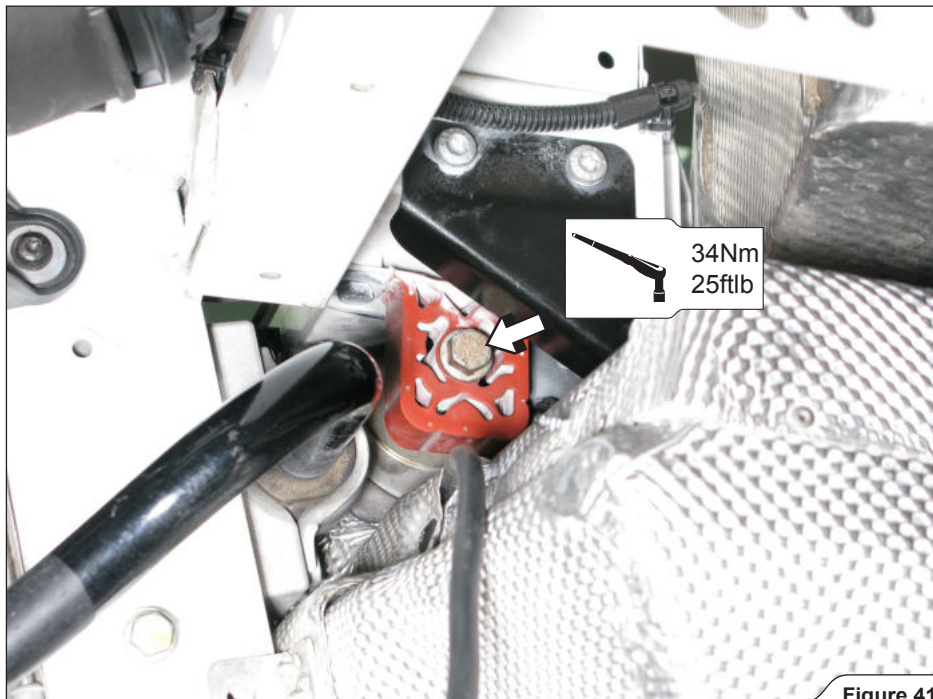

Figure 41
6. Carefully attach the assembled muffler onto the chassis, using stock bolts, washers and distance bushes; tighten the bolts to a specified torque (**Figure 41, 42**).